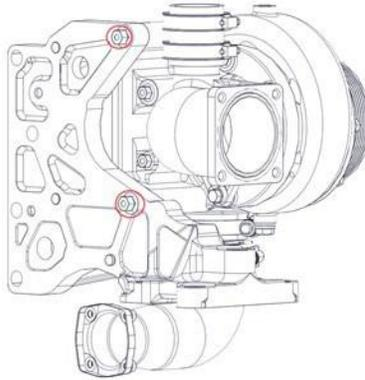

Figure 162-1.
5. Remove the two rear bolts from the water pump assembly (Figure 162-1).